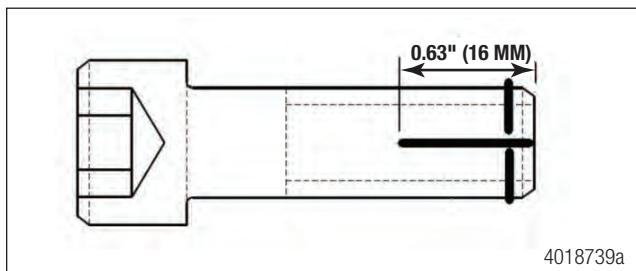

Figure 13.9
2. Apply a 0.63" (16 mm) bead Loctite® 620 adhesive sealant or equivalent to the hub-to-rotor bolts. Figure 13.9.